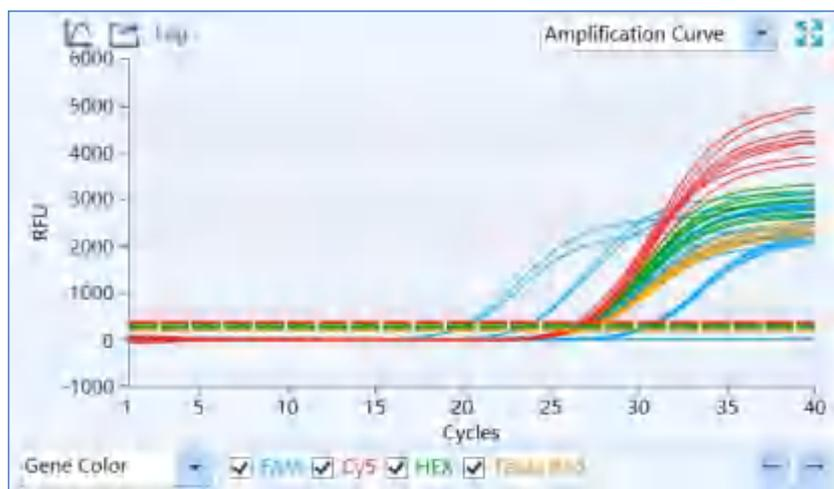

Figure D-8.1. Abs Quant analysis interface - Amplification Curve functional module
- I. **Amplification Curve:** display the diagram of fluorescence intensity against cycle number of the current experiment, as shown in figure D-8.1.